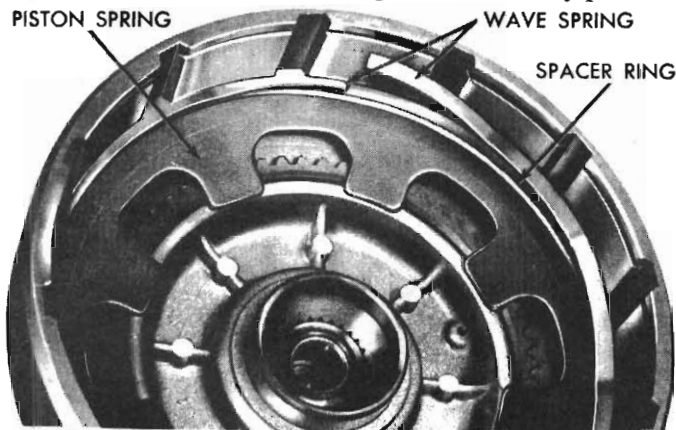
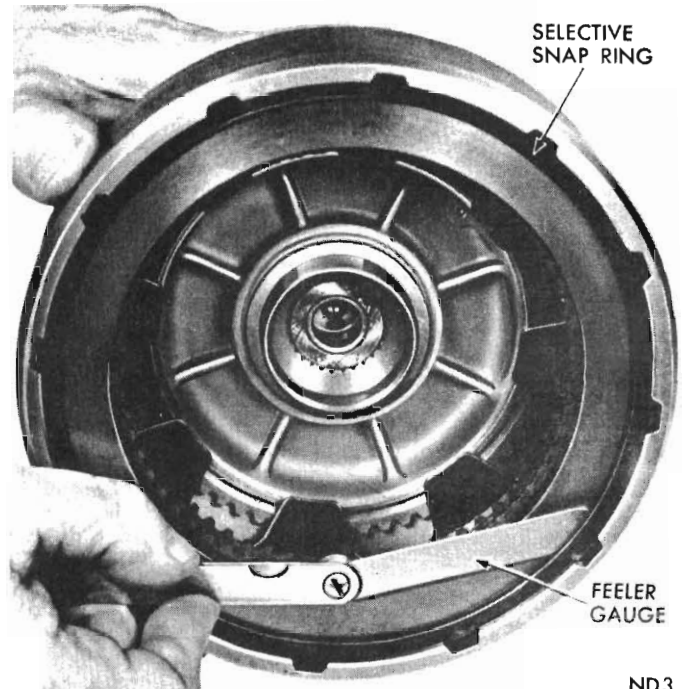
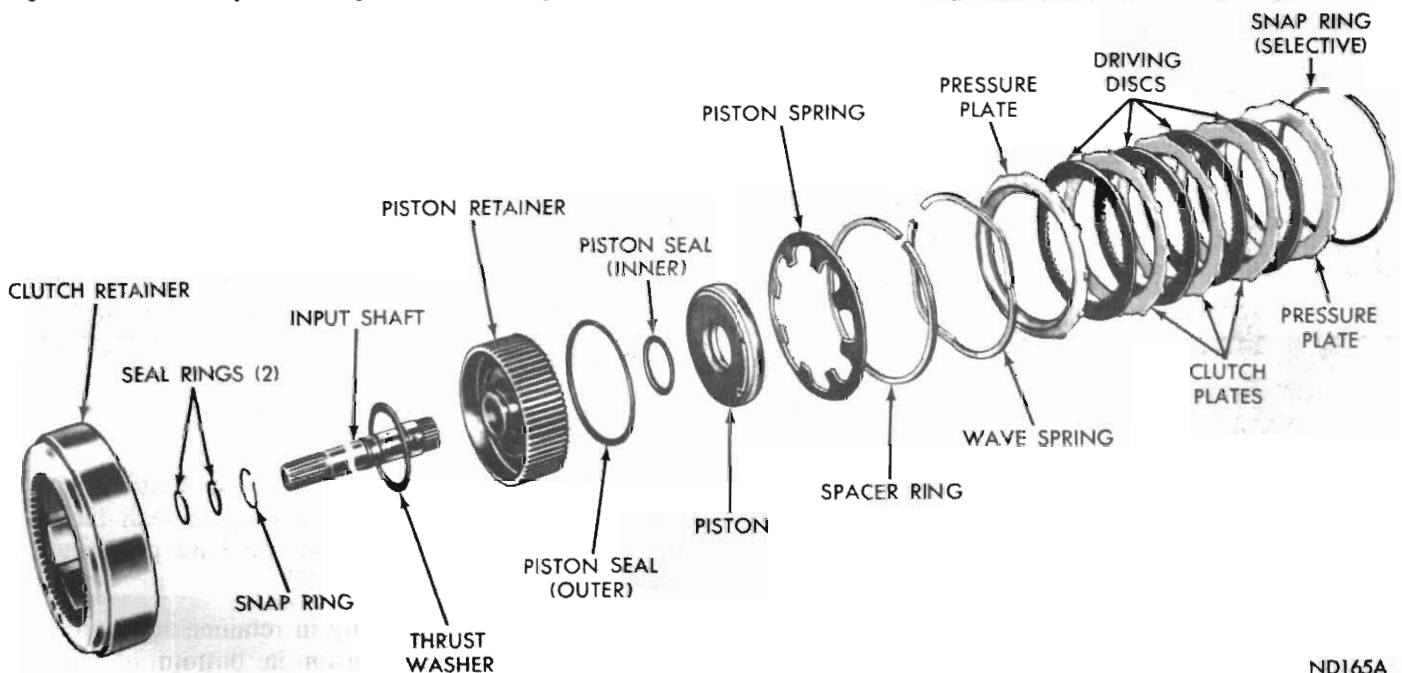

Fig. 79 - Installing rear clutch spring, spacer ring and wave spring
Fig. 80 - Measuring rear clutch plate clearance
Fig. 81 - Rear clutch disassembled (A-727)
(7) Measure rear clutch plate clearance by having an assistant press down firmly on outer pressure plate, then insert a feeler gauge between the plate and snap ring (Fig. 80).
Fig. 81 shows a disassembled view of the rear clutch assembly.
Inspect interlocking seal rings (Fig. 81) on input shaft for wear or broken locks, make sure they turn freely in the grooves. Do not remove rings unless conditions warrant. Inspect bushing in input shaft for wear or scores. Inspect rear clutch to front clutch thrust washer for wear. Washer thickness should be .061 to .063 inch, replace if necessary.
(1) If removed, press input shaft into clutch piston retainer and install snap ring.
(2) Lubricate and install inner and outer seal rings on clutch piston. Make sure lip of seals face toward head of clutch retainer, and are properly seated in piston grooves (Fig. 81)
(3) Place piston assembly in retainer and, with a twisting motion, seat piston in bottom of the retainer.
(4) Position clutch retainer over piston retainer splines and support the assembly so clutch retainer remains in place.
(5) Place clutch piston spring and spacer ring on top of piston in clutch retainer, make sure spring and spacer ring are positioned in the retainer recess. Start one end of wave spring in retainer groove (Fig. 79), then progressively push or tap spring into place making sure it is fully seated in the groove.
(6) Install inner pressure plate in clutch retainer with raised portion of plate resting on the spring.
(7) Lubricate all clutch plates, install one lined plate followed by a steel plate until all plates are installed. Install outer pressure plate and selective snap ring.
(8) Measure rear clutch plate clearance by having an assistant press downward firmly on outer pressure plate, then insert a feeler gauge between the plate and snap ring (Fig. 80). The clearance should be between .025 to .045 inch. If not, install a snap ring of proper thickness to obtain specified clearance. Low limit clearance is desirable.